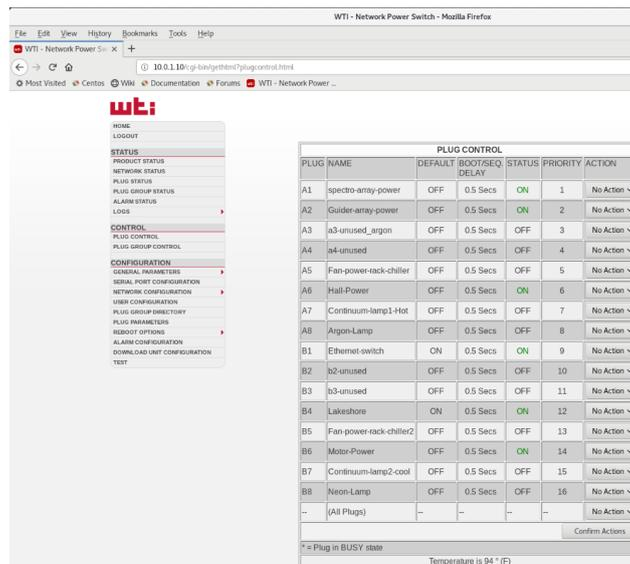

Figure 6: Online interface for WTI switches. [GIVE WHICH PC IT IS in]
- In the left panel of the main window, click "plug control". The interface shown in Figure 6 will appear. These are software switches to control TANSPEC instrument.
- Power-ON the (1) Spectro-array-power, (2) Guider-array-power, (3) Fan-power-rack-chiller, (4) Hall sensor, (5) Fan-power-rack-chiller2 and (6) Motor-power from the WTI switch. Select the Action drop-down for each of these and then confirm the actions.